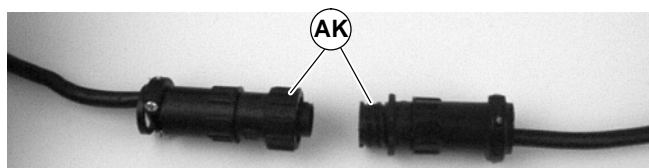

Figure 19
3. For DC variable speed motor, unplug motor cord at disconnect (AK of Figure 19).